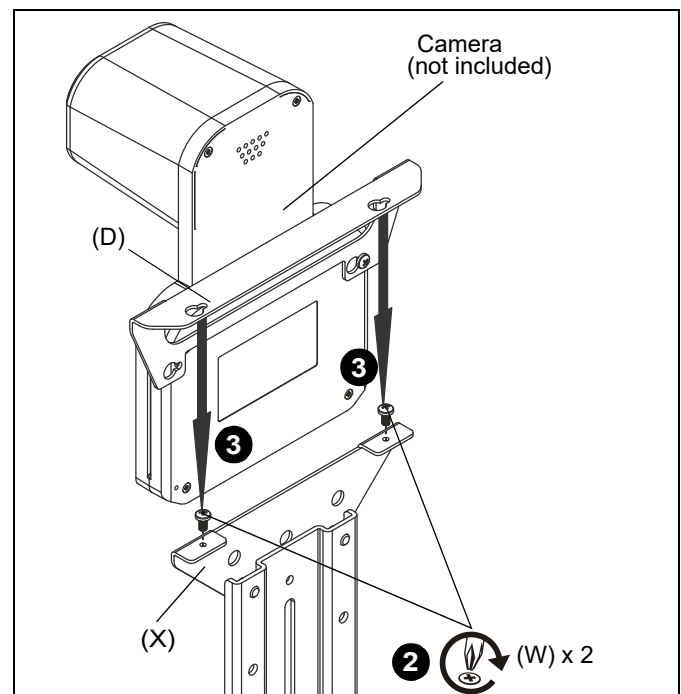

Figure 25
2. Loosely install two M4 x 8mm Phillips pan machine screws (W) into top holes on attachment bracket (X). (See Figure 25)
3. Install camera bracket (D) onto screws (W) installed in Step 2 and slide over. (See Figure 25)
4. Tighten screws (W) to secure camera to mount.